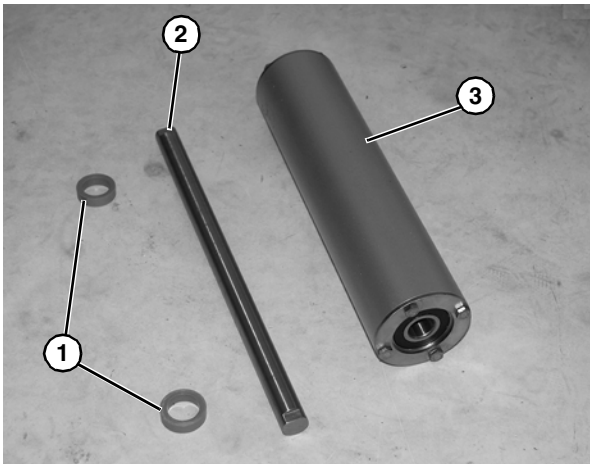

Figure 85
6. Remove the tension pulley spacers (**Figure 85, item 1**), and pulley shaft (**Figure 85, item 2**) from the roller pulley shaft assembly (**Figure 85, item 3**).